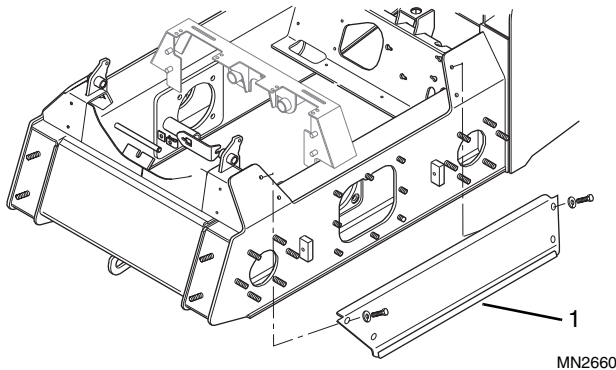

Figure 9-26 Chassis Panel Removal
3. Remove the left (Fig. 9-26, 1) and right (not shown) side panels from the chassis.